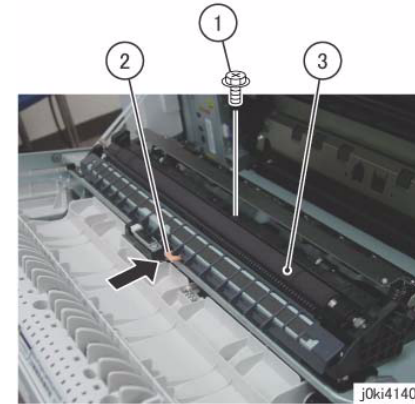

Figure 1 Remove the 2nd BTR Assembly
4. Remove the 2nd BTR Assembly. (Figure 1)